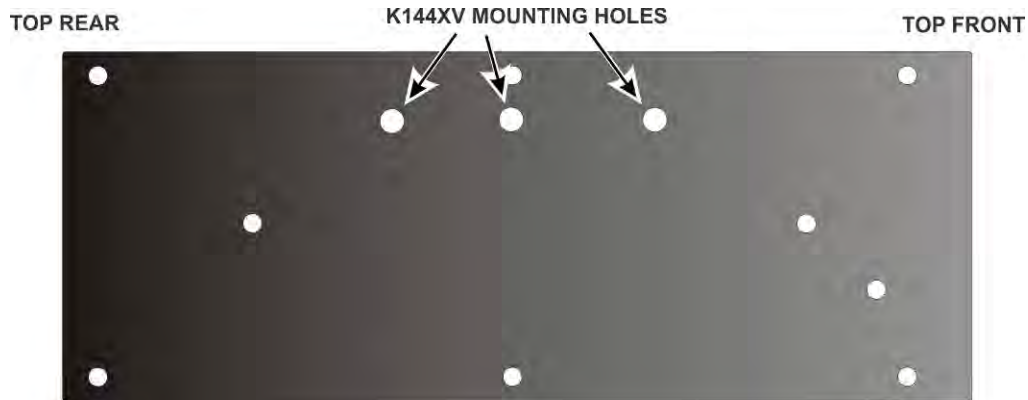

Figure 63. Left Side Panel.
- Locate the left side panel. Both side panels are approximately 4" (10 cm) by 9-7/8" (25 cm) in size but with different hole patterns. The left side panel is shown in Figure 63